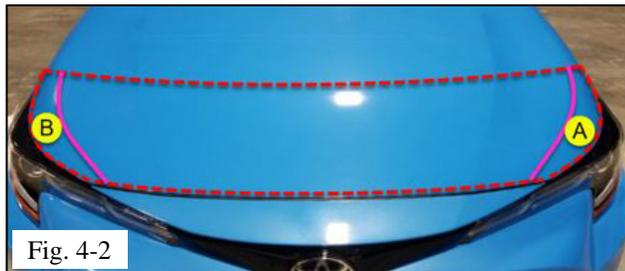

Fig. 4-2
- (b) Apply your alcohol solution underneath the lower edge of this section. Pull the material across the hood to align the lower edge. Hold film in position with one hand and use the squeegee in the other to secure it. Continue working along the outside edge pulling the film into position and securing it with the squeegee (Fig. 4-2).